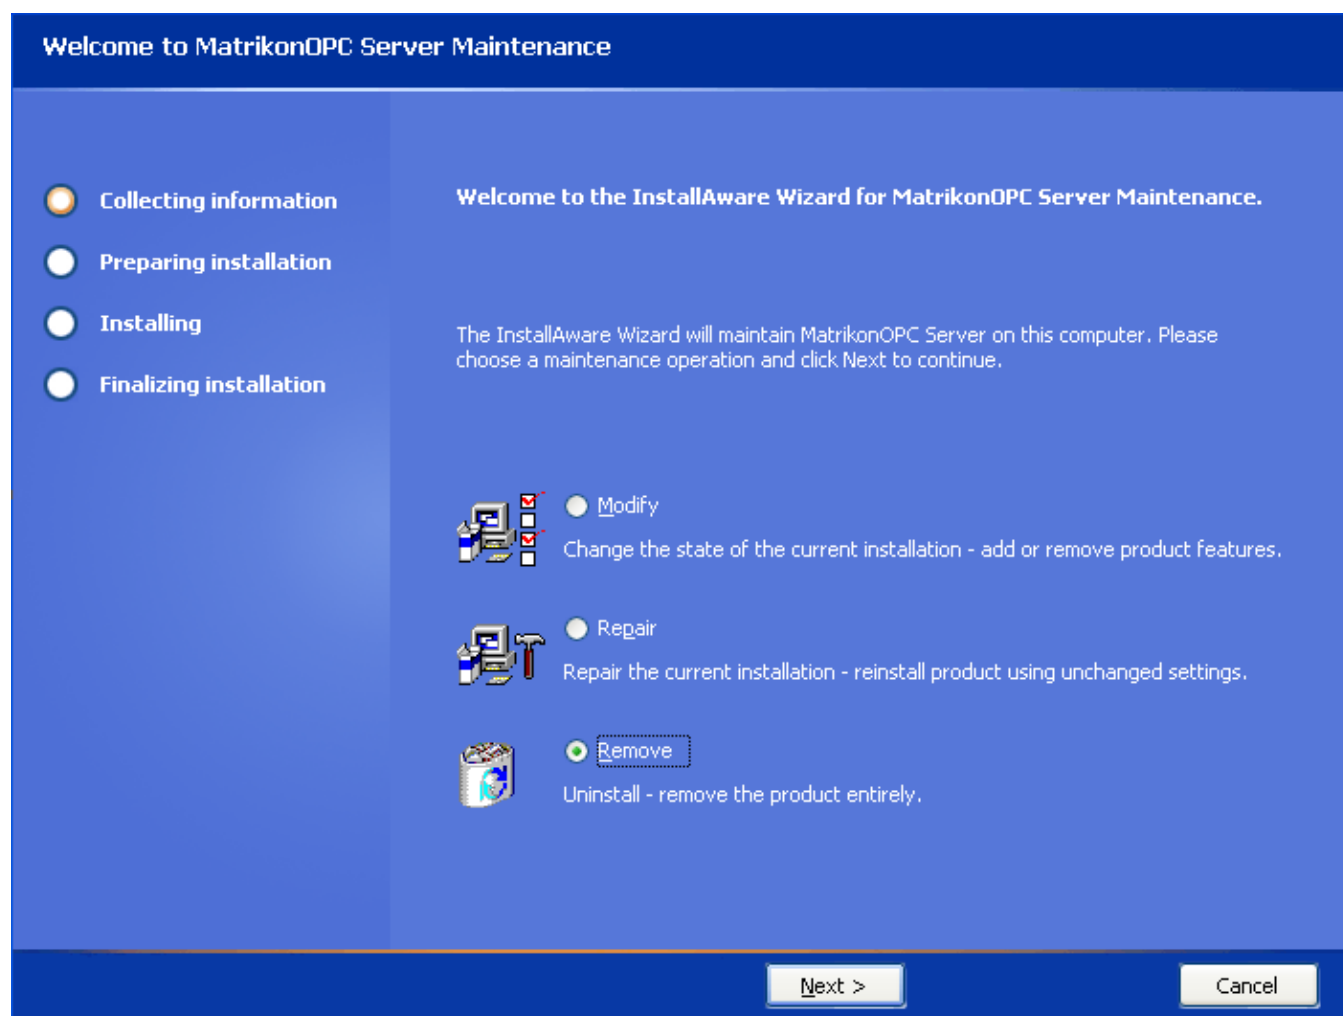

Figure 90 - Welcome to MatrikonOPC Server for GDA Maintenance Screen
6. The **MatrikonOPC Server for GDA – InstallAware Wizard** appears, and the **Welcome to MatrikonOPC Server for GDA Maintenance** screen (Figure 90) is displayed.